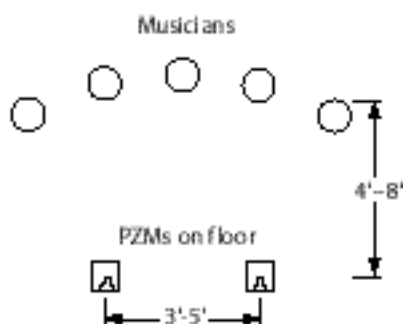

Fig. 8
- On floor—two for stereo about 3 to 5 feet apart (Fig. 8).